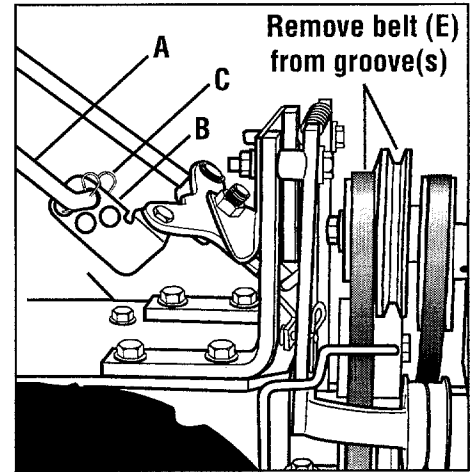

Figure 5-9: Disconnect Forward Clutch Rod and move forward drive belt out of groove(s) in engine forward drive pulley.
2. Disconnect the Forward Clutch Rod (A, Figure 5-9) from the swivel plate (B) by removing the innermost hairpin cotter (C).
5. Slip the forward drive belt (E, Figure 5-9) out of the groove(s) in the engine driven forward drive pulley by pushing it off (away from the engine) with your left hand while pulling the engine starter rope with your right hand.